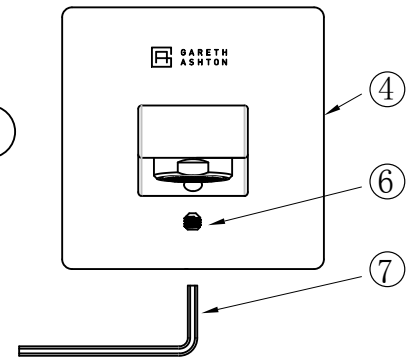

Fig. 2
2. Fit o-ring (3) onto groove of connector (2). Screw connector (2) onto threaded nipple (1), then place flange (4) against wall/tile face, the holes of flange are at the bottom. Fit wall outlet onto spigot of connector in the correction as required. While the wall outlet (5) is held against flange (4), tighten screw (6) using hex key (7), see Fig2.